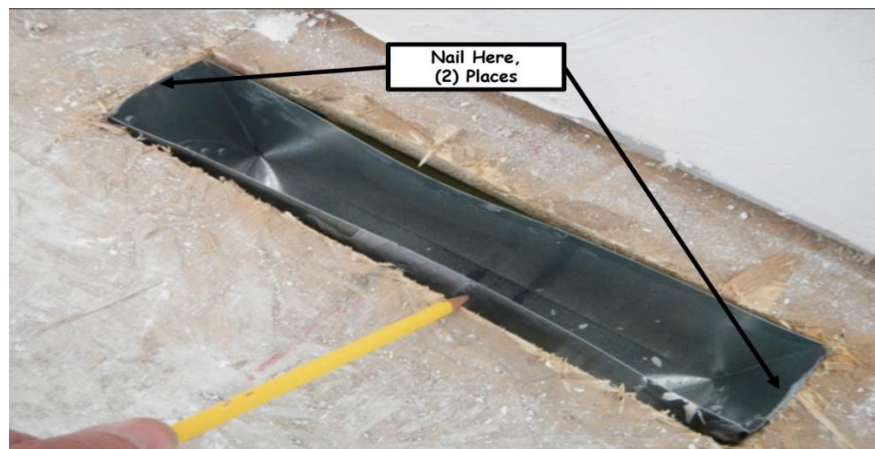

Figure 12-3. Securing In-Floor Heating Duct.
1. Secure every in-floor heating duct to the OSB sub-floor by nailing it with two soffit nails (see Figure 12-3). Prior to nailing, adjust the duct up or down as needed so the top edge is flush with the top of the sub-flooring.